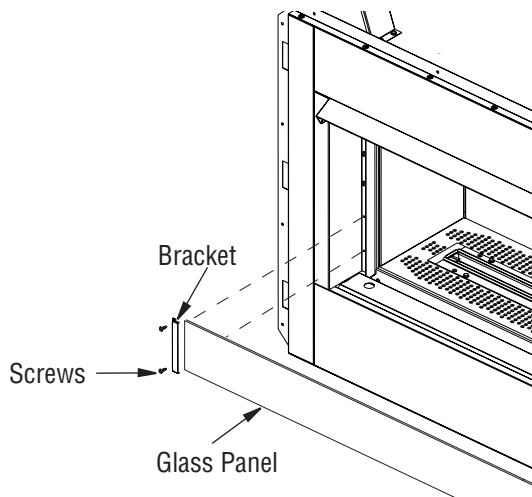

Figure 25a - Installing/Removing Glass Panel
The glass panel assembly should be installed after the fireplace is completely framed and finished. The brackets are attached to the front side face of the fireplace using two screws as shown in Figure 25a. Position the glass panel in the bracket so that it is securely in place.
3. Remove glass panel (see Figure 25a).